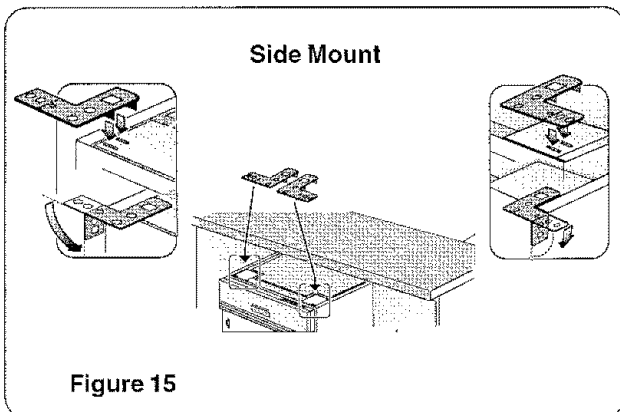

Figure 15
- 2 **Side Mount** is used for countertops made of marble, granite, or other very hard materials that cannot be easily drilled. Bend the mounting brackets along the small holes and in the same direction as the two small tabs. Orient the mounting brackets as shown in Figure 15, and position the two small tabs on the mounting brackets over the two slots on the dishwasher's front corners. Push the mounting brackets down firmly to insert the tabs into the slots.